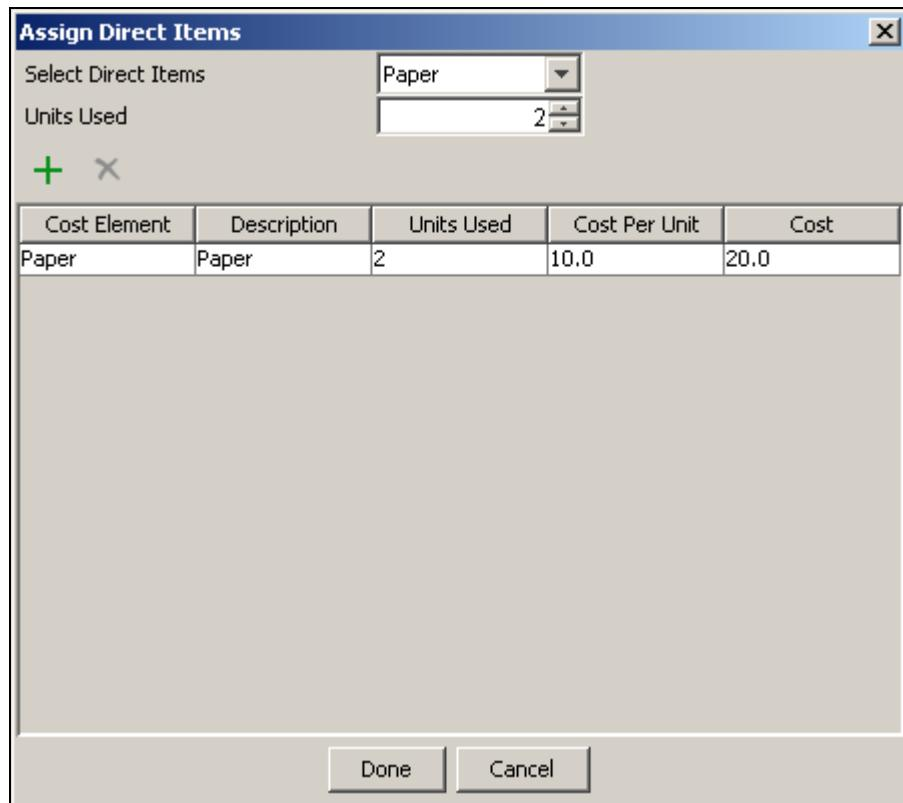

Figure 12: Direct Resource Added
3. Select the number of direct resources selected from the **Select Units Used** drop-down list, which will be consumed by the activity and click *Direct Item* (+) icon. The selected direct resource is added as shown in Figure 12.